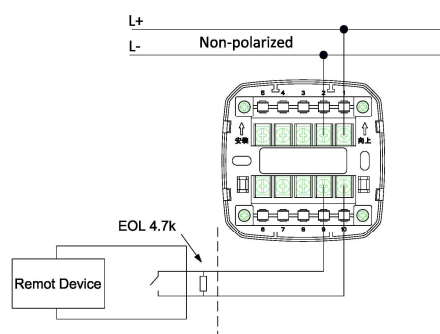

Fig3.1
3. Loop wiring is shown in Fig.3.1.